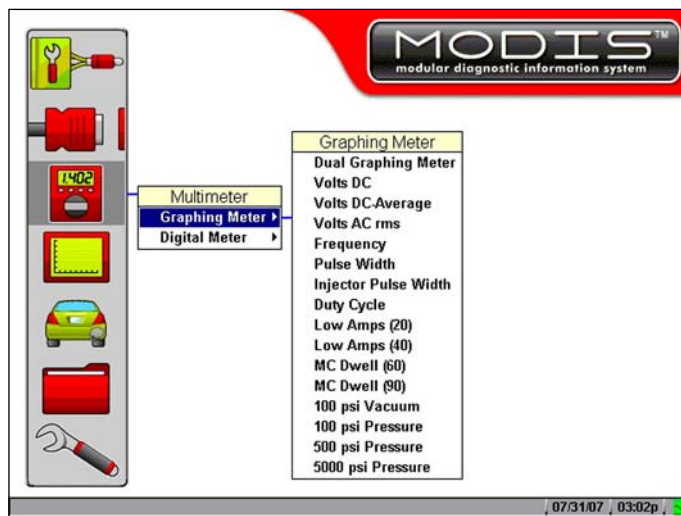

Figure 4-7 Graphing Meter submenu
1. Highlight a menu option with an arrowhead after its name to open the submenu (Figure 4-7).